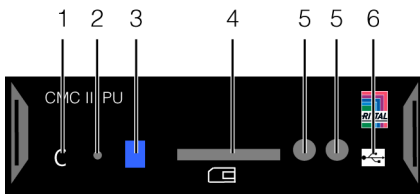

Fig. 90: Liquid Cooling Package control unit (CMC III PU) – front
In order to switch the device to normal operation (control operation), briefly press the "C" button (fig. 90, item 1) once.